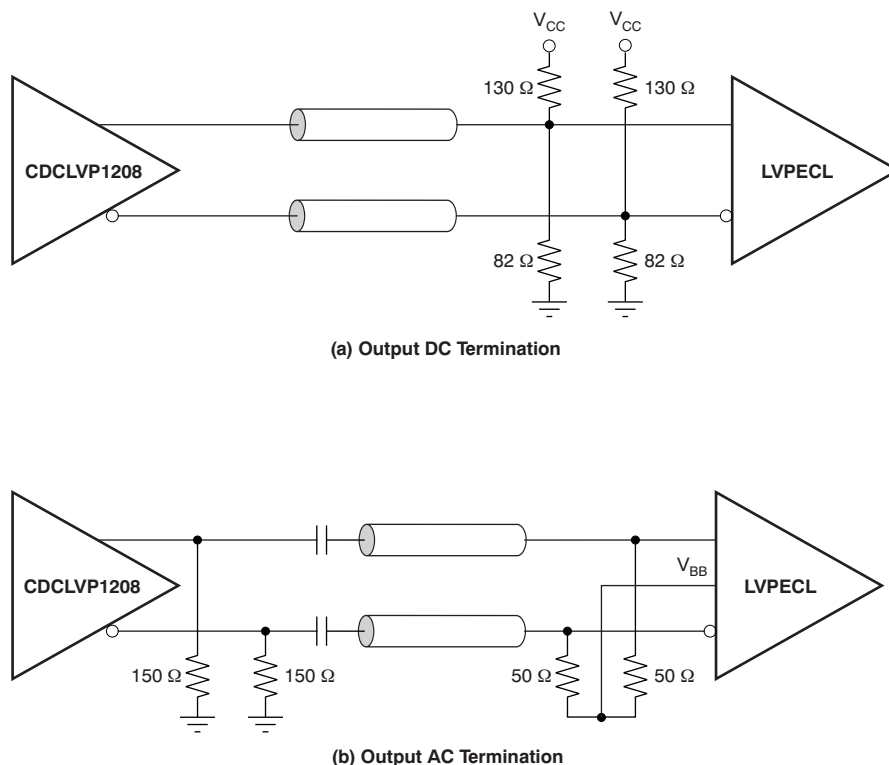

Figure 13. LVPECL Output DC and AC Termination for $V_{CC} = 3.3\text{ V}$
The CDCLVP1208 is an open emitter for LVPECL outputs. Therefore, proper biasing and termination are required to ensure correct operation of the device and to minimize signal integrity. The proper termination for LVPECL outputs is a $50\ \Omega$ to $(V_{CC} - 2)$ V, but this DC voltage is not readily available on PCB. Therefore, a Thevenin equivalent circuit is worked out for the LVPECL termination in both direct-coupled (DC) and AC-coupled configurations. These configurations are shown in Figure 12 (a and b) for $V_{CC} = 2.5$ V and Figure 13 (a and b) for $V_{CC} = 3.3$ V, respectively. It is recommended to place all resistive components close to either the driver end or the receiver end. If the supply voltage for the driver and receiver is different, AC coupling is required.